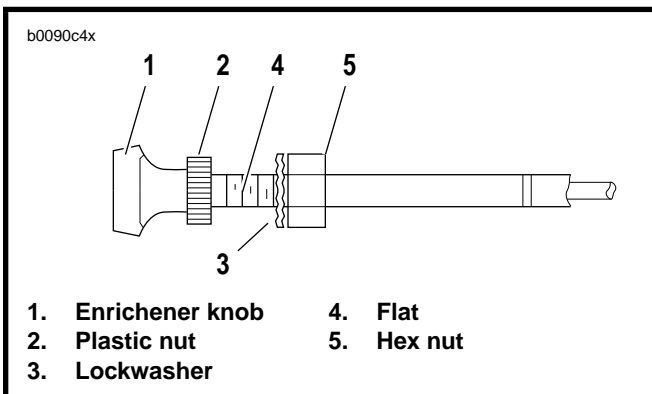

Figure 4-9. Fuel Enrichener Control
See Figure 4-9. Check enrichener operation. Enrichener knob (1) should open (and remain open) and close without binding. Plastic nut (2), next to the enrichener knob, controls the sliding resistance of the enrichener control cable within the cable conduit. If adjustment is needed, perform the following:
1. Loosen hex nut (5) at backside of mounting bracket.
3. Hold cable assembly at flats (4) with a wrench. Adjust resistance until knob slides outward and remains fully open without assistance. Knob must also slide inward unaided.
- a. Turn plastic nut (2) by hand counterclockwise (reducing sliding resistance).